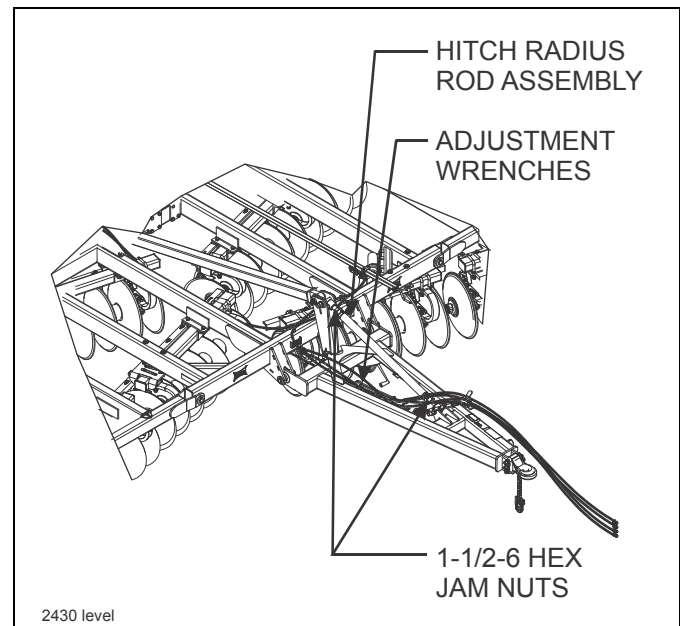

Figure 4-8: Radius Rod Leveling Adjustment
3. To adjust the leveling feature, loosen jam nuts at each end of the radius rod using the adjustment wrenches (See Figure 4-8.) To raise the front of the Weatherproofer I, lengthen the radius rod assembly. To lower the front of the Weatherproofer I, shorten the radius rod assembly. After adjusting, retighten jam nuts at each end. Adjustments should be made in small increments.